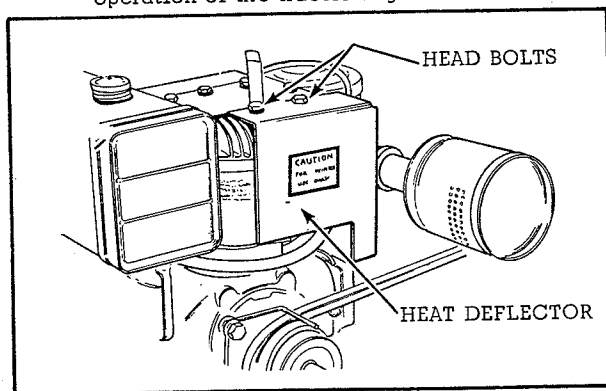

Fig. 11
- Remove 2 head bolts from the left hand edge of the cylinder head of the engine and install the heat deflector as shown in figure 11. Replace the head bolts and tighten securely. This deflector is provided for winter use only, and must be removed in warm weather to prevent overheating and damaging the engine. The deflector directs a flow of warm air around the carburetor and allows more efficient winter operation of the tractor engine.